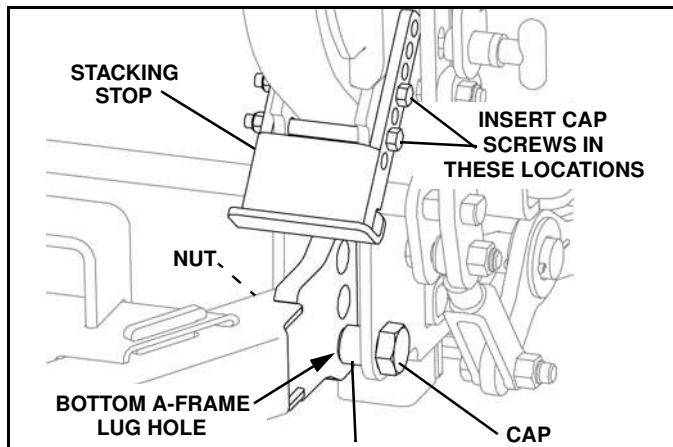

Figure 1-9
a. With a dimension of 8" to 9", the bottom lug holes are used to connect the A-Frame to the Lower Light Lift Bar (LLL) frame. Insert the 1.00-8 x 5" hex head cap screw from the outside through the LLLB frame, spacer, A-Frame lug bottom hole and LLLB frame. Secure with 1.00 x 8 lock nut. Position the Stacking Stop as shown and secure with two 1/2"-13 X 5.00 hex head cap screws and two 1/2"-13 lock nut as shown. Repeat this step for the opposite side. (See Figure 1-9). Proceed to Step 16.